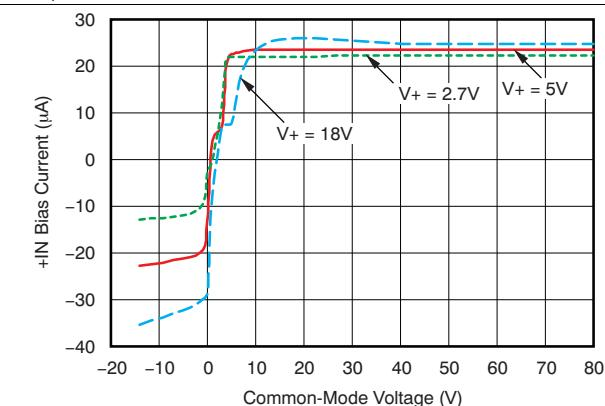

Figure 7. INA283 +IN Bias Current vs Common-Mode Voltage
(1) RTI = referred-to-input.
(2) See typical characteristic graph Figure 7.
(3) The average of the voltage on pins REF1 and REF2 must be between V_{GND} and the lesser of $(V_{GND} + 9\text{ V})$ and $V+$.